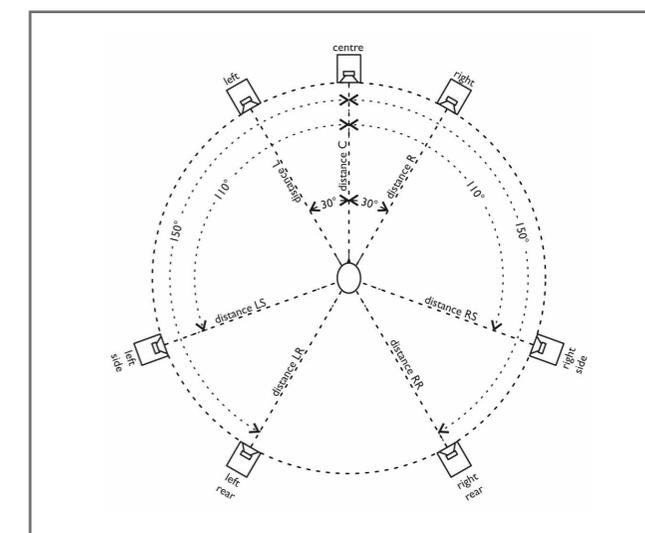

Fig. 3
5.1 or 7.1 Surround Positioning. All loudspeakers should be equidistant from the listening position – see **Fig.3**: distance $L=C=R=LS=LR=RR=RS$. For 5.1 systems, position the surround speakers between 110° and 150° degrees (ITU spec. is 110°). If ideal positioning isn't possible, position loudspeakers as close as possible to ideal. Try to avoid placing subwoofers in corners, very close to walls, and on the midpoint between two parallel walls